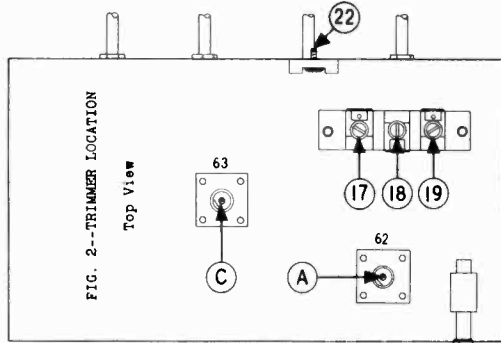

FIG. 2--TRIMMER LOCATION
- (c) Adjust the wave trap trimmer, Illus. #1, (Fig. 2), for MINIMUM output, increasing the signal generator output as necessary to obtain a clearly defined point of minimum output.
- (d) Adjust the antenna parallel trimmer, Illus. #6, (Fig. 2), to maximum output. Then try to increase the output by detuning the trimmer slightly and retuning the receiver dial. If this causes the output to go down, detune the trimmer in the opposite direction. Continue detuning the trimmer and retuning the receiver dial until maximum output meter deflection is secured.
- (d) Adjust the preselector trimmer, Illus. E, (Fig. 2), to maximum output.
- (e) Adjust the antenna parallel trimmer, Illus. #7, (Fig. 2) to maximum output.
- (c) Adjust the oscillator tracking condenser, Illus. #22, (Fig. 2), while rocking the tuning condenser plates back and forth through resonance until no further increase in output can be obtained.
- (d) Adjust the Foreign Band antenna trimmer, Illus. #5, (Fig. 2), to maximum output. Then try to increase the output by detuning the trimmer slightly and retuning the dial until a maximum output meter deflection is secured.